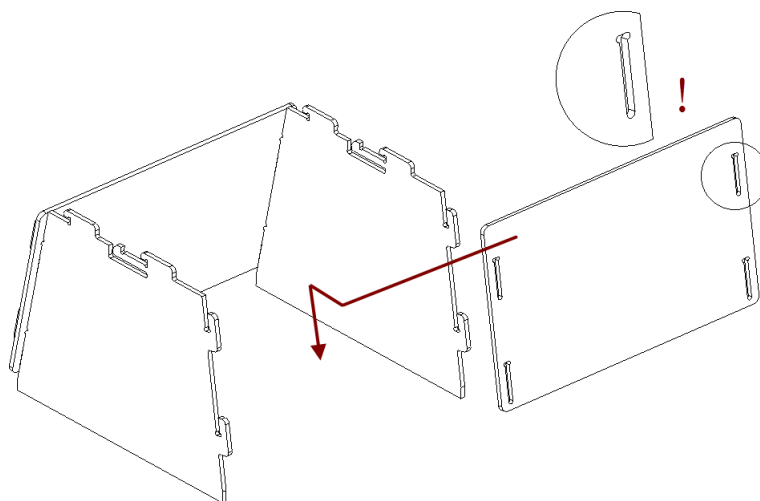

Figure 177: Assembling the back wall.
2. Install the back wall in the same way (see Figure 177).